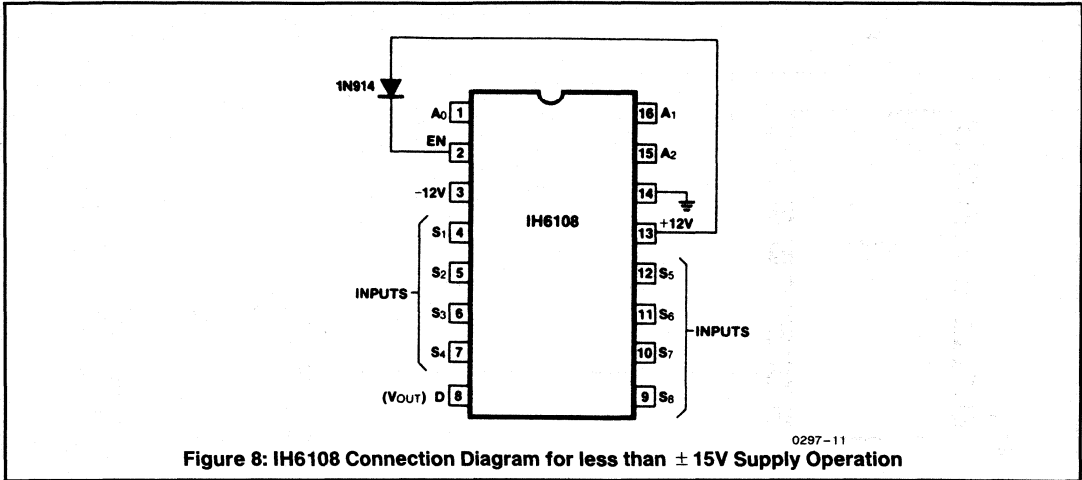

Figure 8: IH6108 Connection Diagram for less than  $\pm 15V$  Supply Operation
Caution must be taken to ensure that the enable (EN) voltage is at least 0.7V below  $V^+$  at all times. If this is not done, the Address input strobing levels will not function properly. This may be achieved quite simply by connecting EN (pin 2) to  $V^+$  (pin 13) via a silicon diode as shown in Figure 8. When using this type of configuration, a further requirement must be met: the strobe levels of A0 and A1 must be within 2.5V of the EN voltage in order to define a binary "1" state. For the case shown in Figure 8 the EN voltage is 11.3V which means that logic high at A0 and A1 is = +8.8V (logic low continues to be = 0.8V). In this configuration the IH6108 cannot be driven by TTL (+5V) or CMOS (+5V) logic. It can be driven by TTL open collector logic or CMOS logic with +12V supplies.